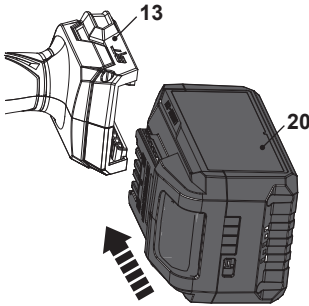

Fig. 13
1. Align the battery pack (20) with the sliding slots of the battery docking port (13) and slide the battery pack (20) in to attach it. Ensure it clicks in place (Fig. 13).